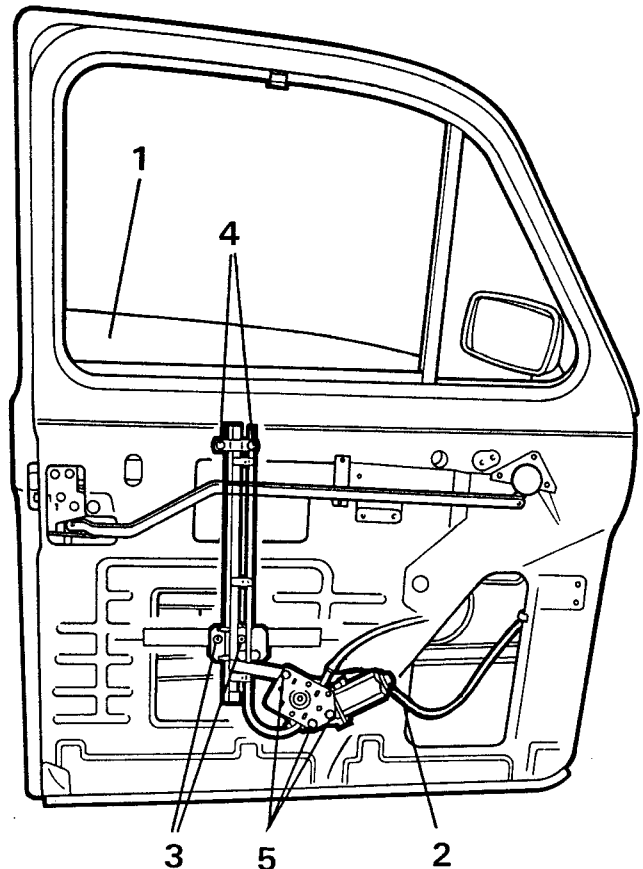

Figure 5
2. Disconnect lift motor wiring plug, see figure 5.